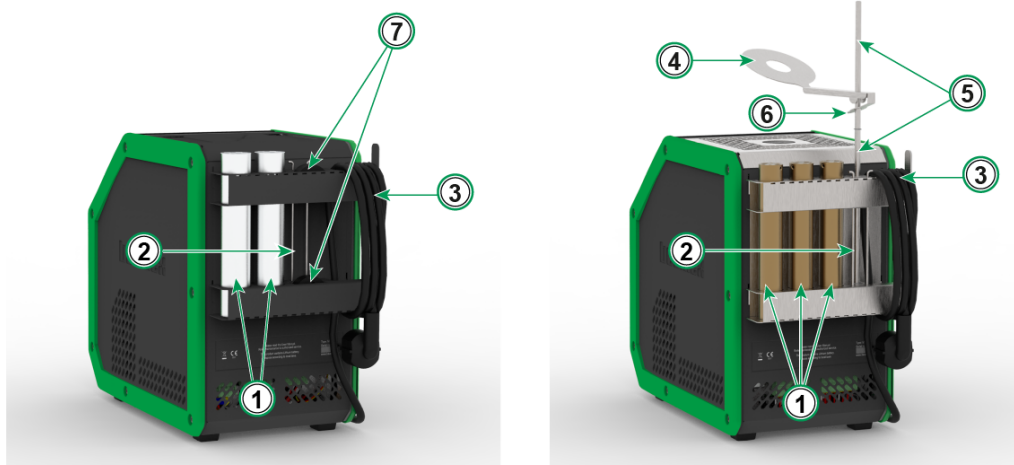

Figure 23: Accessory holder, fully equipped
Figure 23: Accessory holder, fully equipped shows the **Accessory holder's** components — common parts for both MC6-T models and those specific to each (MC6-T150 on the left, MC6-T660 on the right).
3. Slide the heat shield onto the mounting support, pressing gently on the **Heat shield tongue** (6 in Figure 23: Accessory holder, fully equipped).